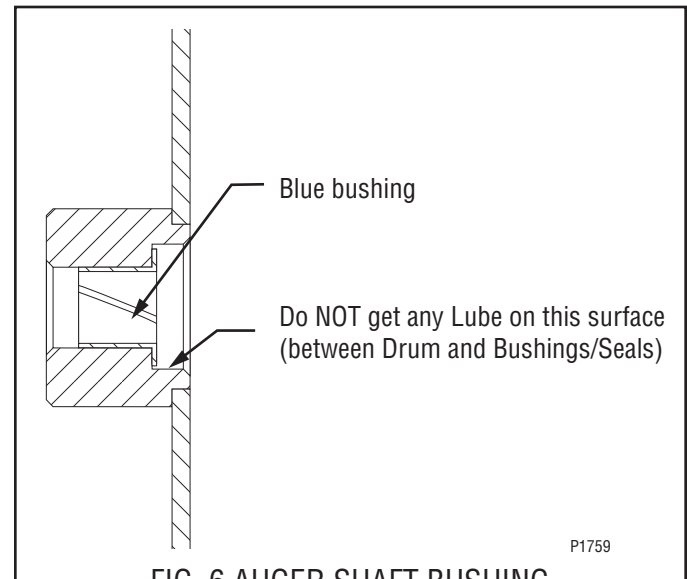

FIG. 6 AUGER SHAFT BUSHING
10. Refer to Fig 6 and slip new blue bushing into cooling drum.